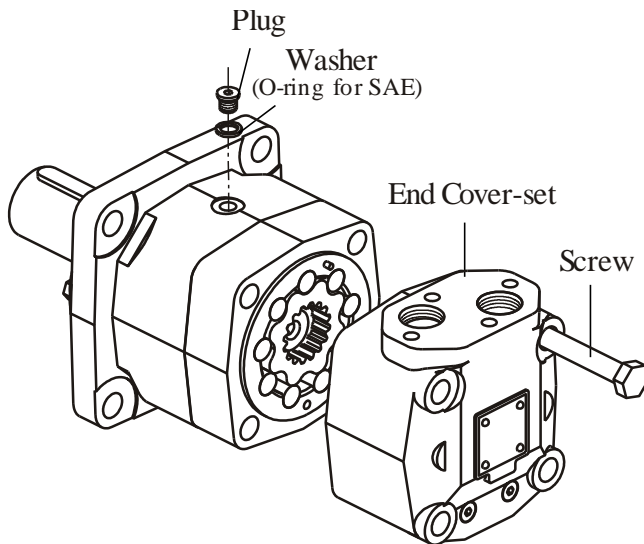

Fig.1
3. Unscrew screws using a S24 torque wrench (see Figure 1).